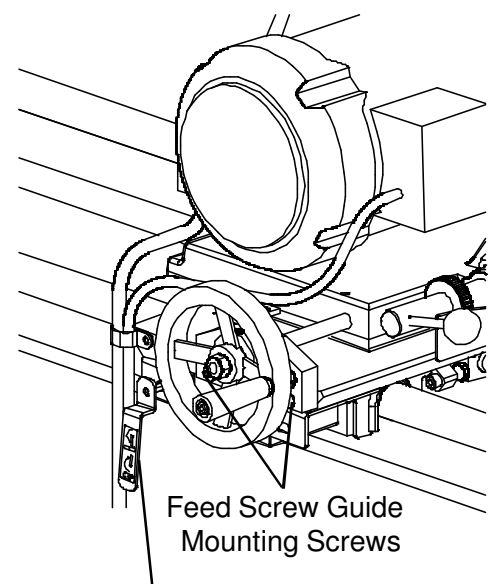

FIG. 18A
2. Turn the actuator release lever 1/2 turn clockwise to release the linear actuator bearings from the drive shaft. Slide the actuator release lever out of actuator bar assembly by loosening the retainer shaft collar, which preloads the holding spring. See FIG. 18A and 18B.